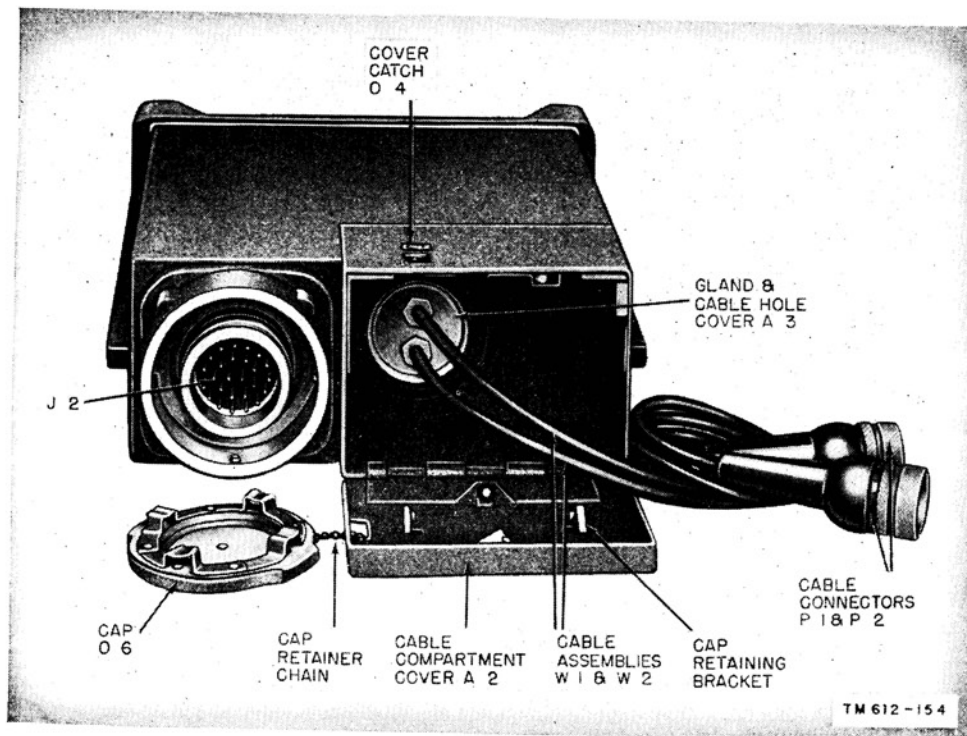

Figure 27. Local Control C-434/GRC, rear view.
(figs. 27 through 30)
*c.* Remove the protective cover plate from the plug at the rear of the local unit. Open the hinged door at the left of the plug and store the cover in the clamp provided within the compartment (fig. 27).